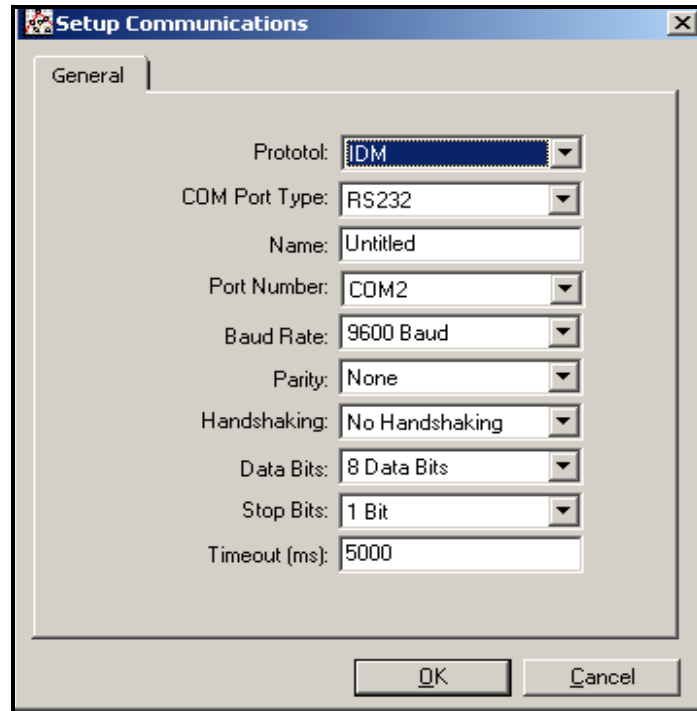

Figure 18: Setup Communications Screen
4. Click on the “*Communications Port*” option to select it. The *Setup Communications* screen appears similar to Figure 18 below.